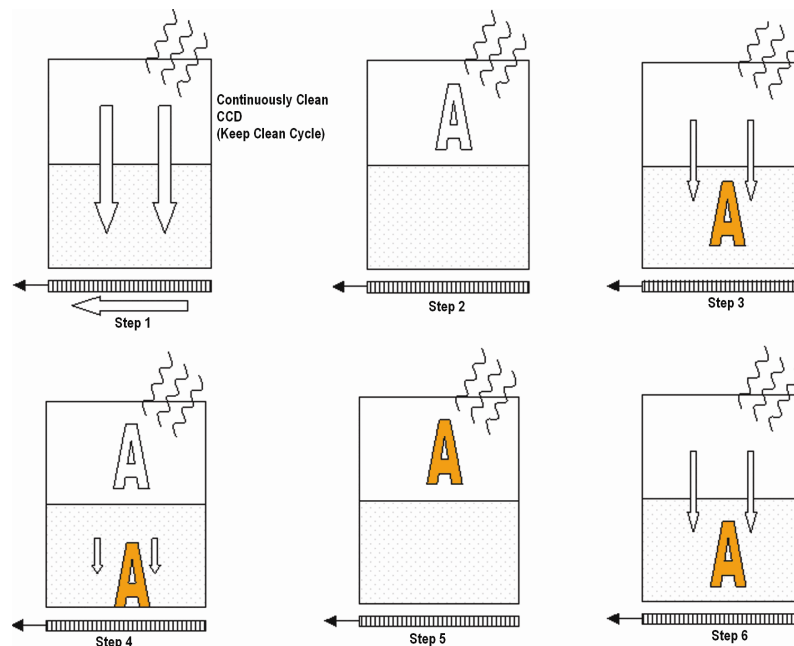

Figure 8: Capture sequence for a Frame Transfer CCD
**Figure 8** takes you through the capture sequence for an FT CCD: